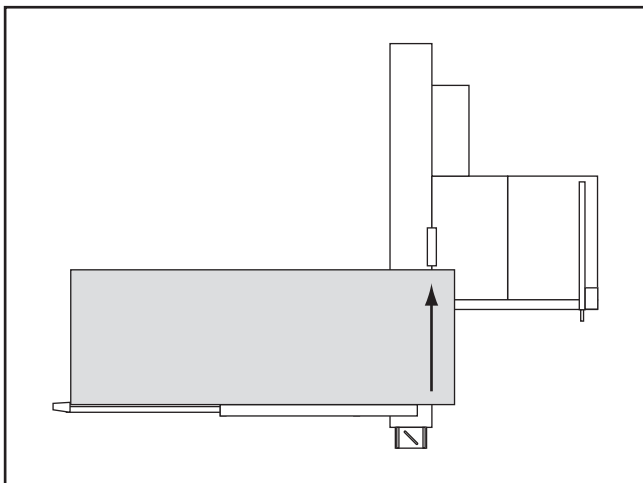
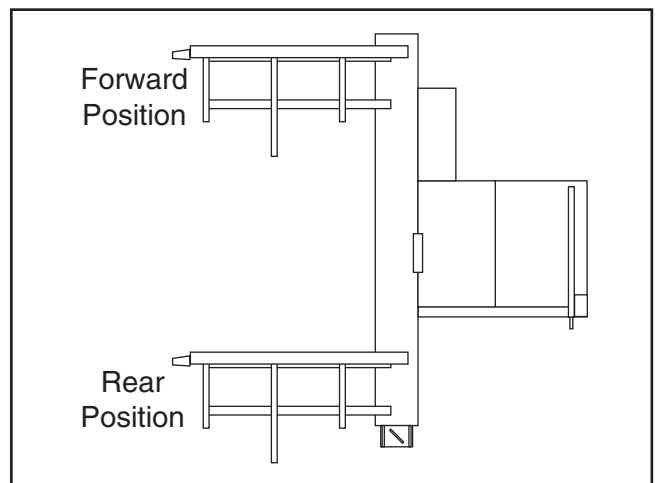

Figure 85. Crosscut fence mounted in the rear position for smaller panels.
Figure 87. Forward and rear crosscut fence mounting positions.
Mounting the crosscut fence in the rear position provides greater stability for crosscutting smaller panels, as shown in **Figure 85**.
3. Loosen the crosscut fence pivot stud under the crosscut fence, install the fence in the forward position, as indicated in **Figure 87**, then rotate the fence against the 90° stop bolt.
Follow the same steps in the **Crosscutting Full Size Panels** subsection on **Page 50**, but mount the crosscut fence in the rear position, as indicated in **Figure 87** on the previous page. Then, load the workpiece so your setup looks similar to **Figure 85** on the previous page.
- Follow the same steps in the **Crosscutting Full Size Panels** subsection on **Page 50**, but mount the crosscut fence in the rear position, as indicated in **Figure 87** on the previous page.